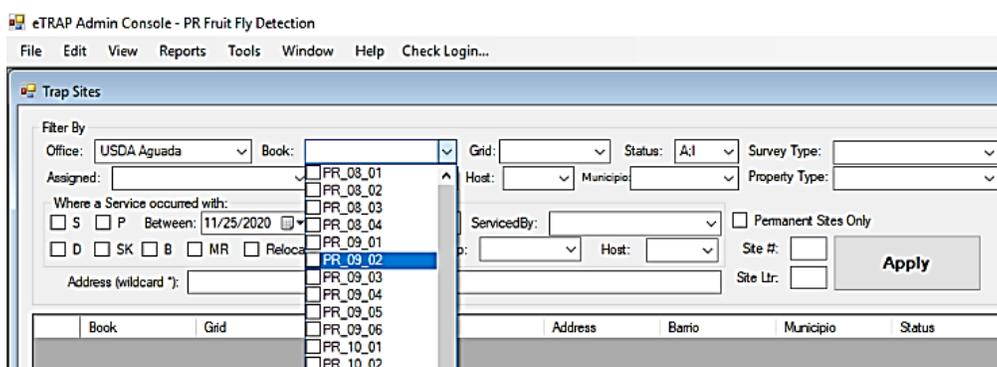

Figure 11. Book Dropdown Selection
**Step 3:** Select “Book” and click apply. (Figure 11)